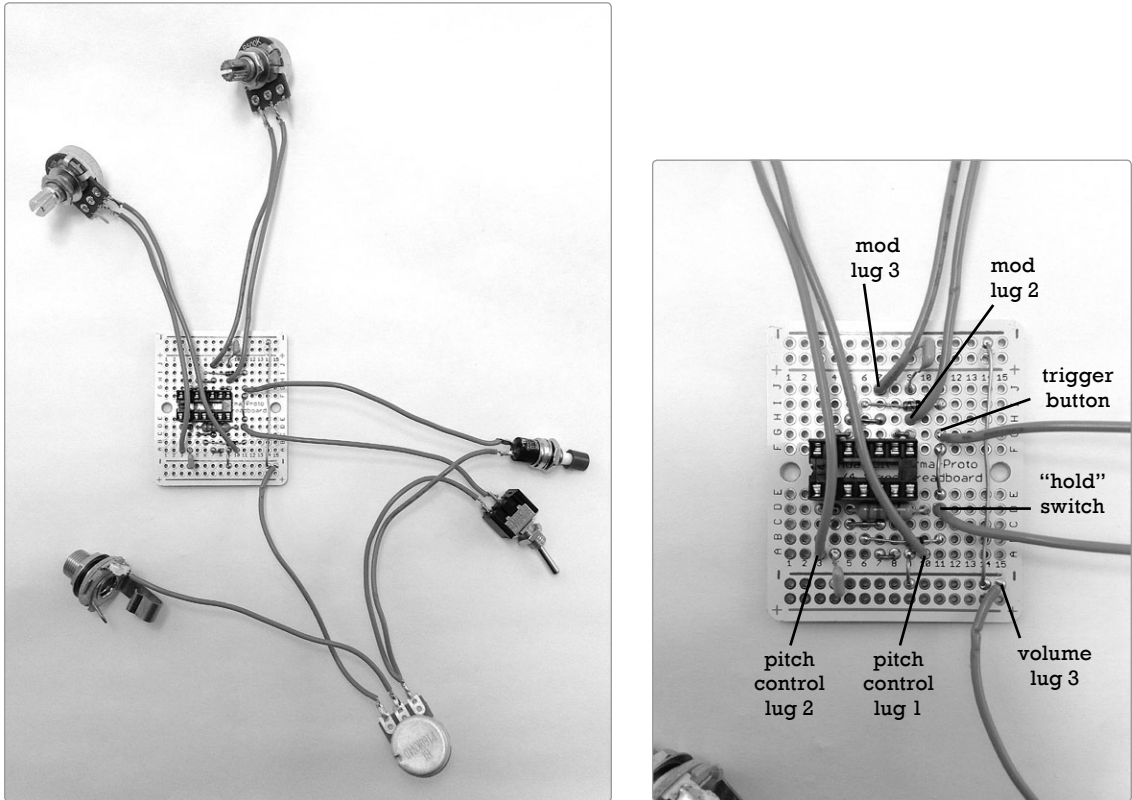

FIGURE 15-14: *The circuit with completed output (left) and a labeled detail of the PCB (right)*
Step 12 Grab the output assembly you completed in Step 4 on page 271. Run the remaining lead on the toggle switch to 11D and the lead on the pushbutton switch to 11G. Solder both now. Then, take the lug 3 lead on the 10k ohm pot, which is the volume control, and connect it to the rightmost hole on the PCB's lower ground rail (see Figure 15-14).